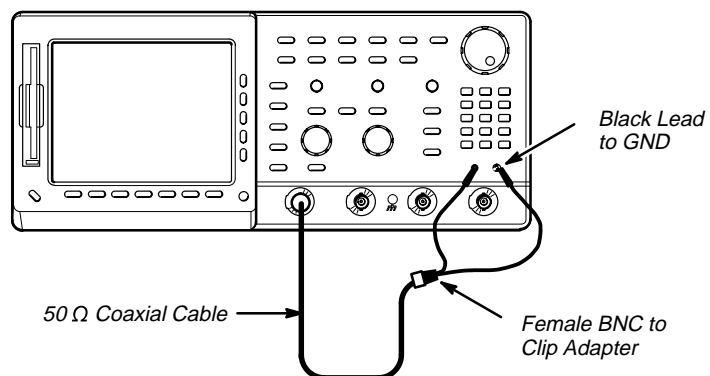

Figure 1-23: Initial Test Hookup
- Connect **CH 1** to **PROBE COMPENSATION SIGNAL** and to **PROBE COMPENSATION GND** through a precision coaxial cable and a BNC to clip adapter. See Figure 1-23.